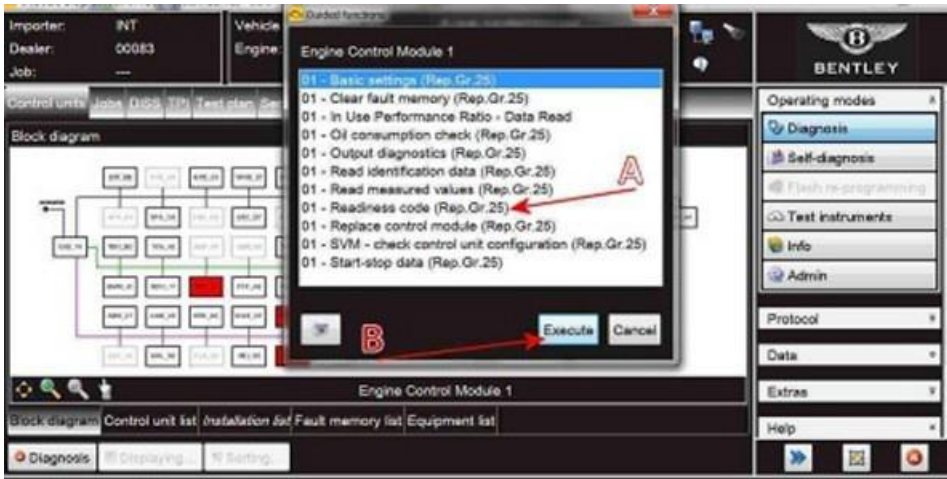

Figure 6
- Referring to Figure 6 – Select Readiness code (Point A)